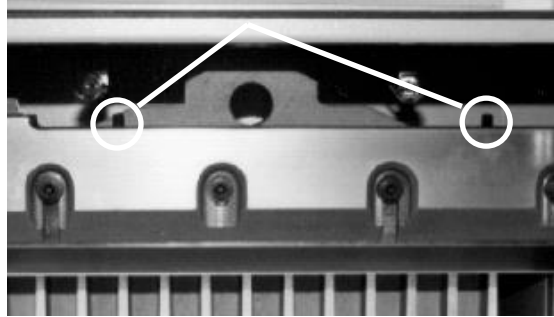

Figure 41
2. Back off the knife adjusting screws on top of the knife bar several turns (Figure 41). A new knife will cut deeper than one that has been ground several times. Failure to back off the screws could damage the knife and/or the cutting stick.
6. Double check to make sure the knife adjusting screws have been backed out all the way (Figure 41, page 42). Guide the blade, left edge first, into the space between the knife bar guide frames on the left. Move the right end of the blade into the machine, under the knife bar slot. Align the lifters with the slots in the knife bar, raise the knife into the knife bar slot as high as it will go and tighten the lifters.